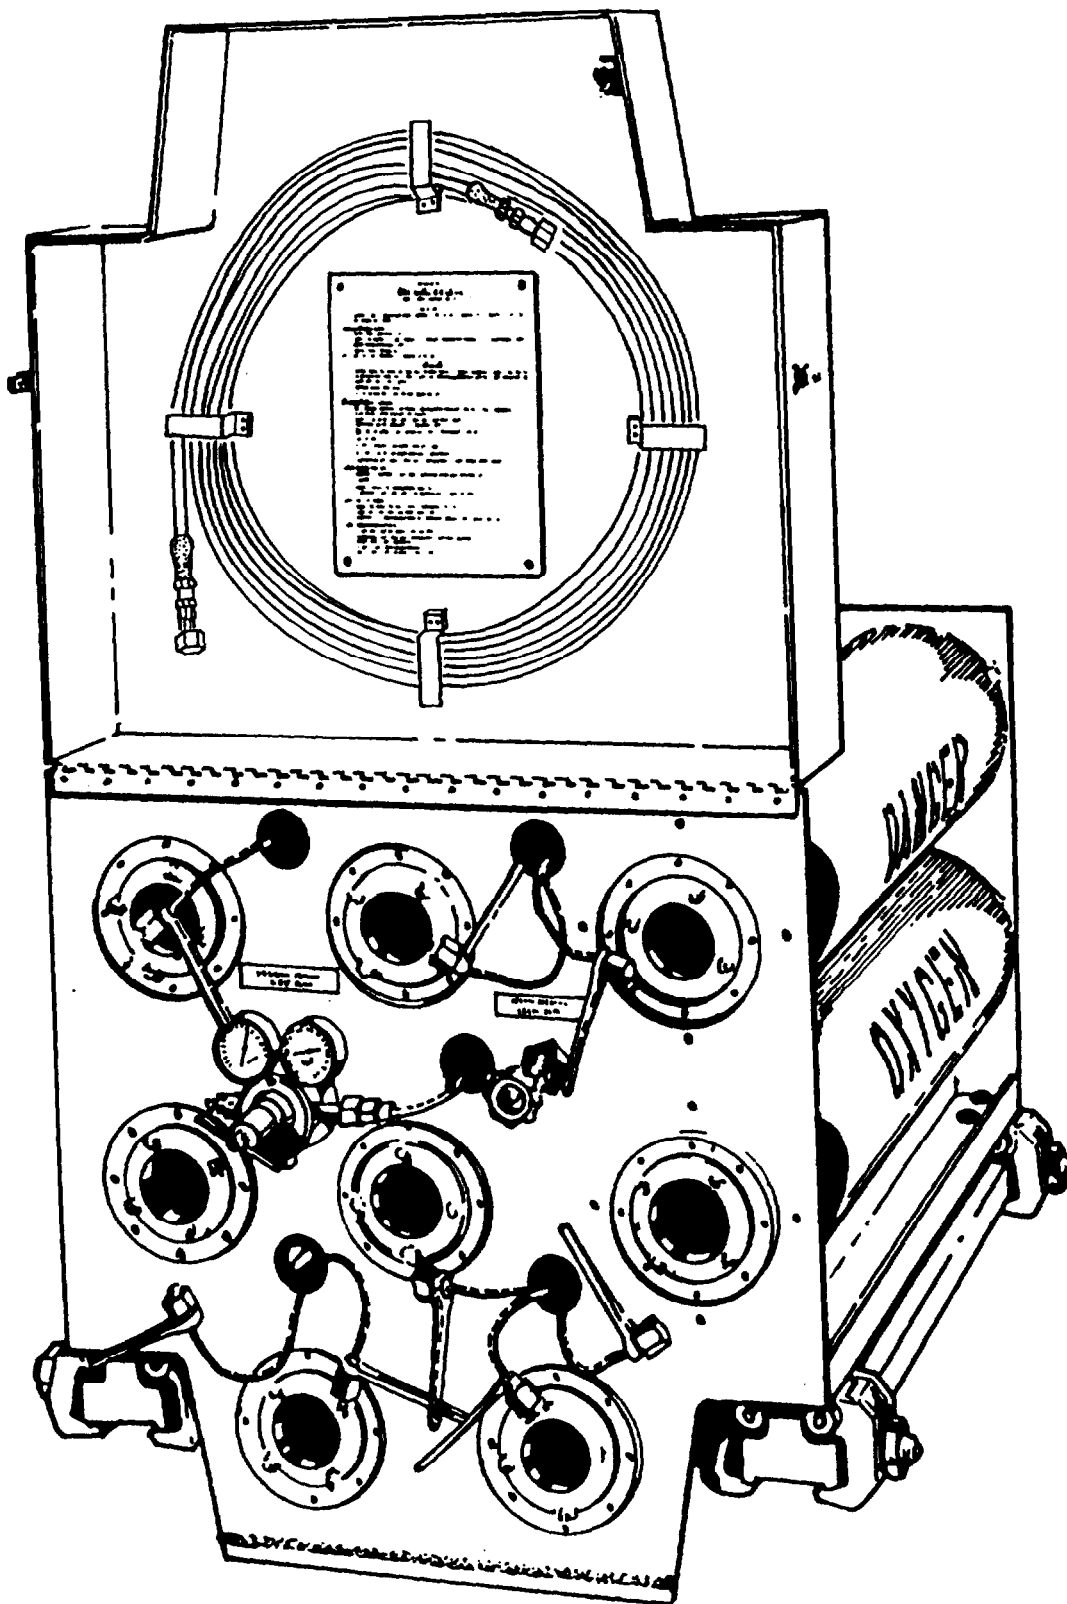

Figure 9-24. Oxygen Servicing Unit
g. *Oxygen Servicing Unit.* The oxygen servicing unit, shown in figure 9-24, will provide oxygen at a maximum pressure of 3,000 psig. Each of the eight bottles will hold 224 cf of oxygen. The flow capacity of the regulator is 1,500 scfh at 2,300 psig delivered.